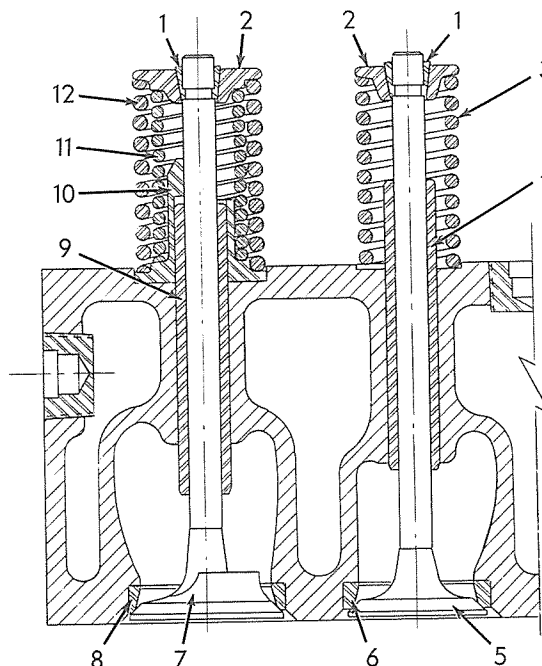

Fig. 12 — Valves Installed in Cylinder Head —
2. Make certain that piston, in cylinder from which valve springs are to be removed, is at top dead center. Using two suitable pry bars, and using the rocker arm shaft as a fulcrum, pry down on valve spring retainer, Fig. 12 (2) until valve spring retainer locks